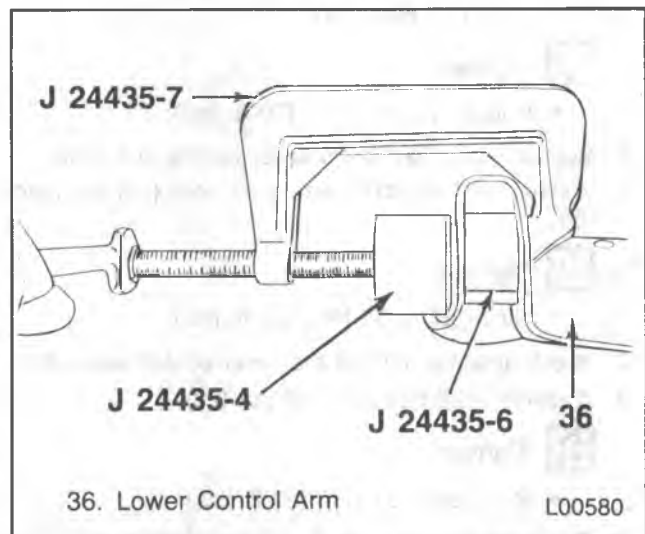

Figure 28 — Removing or Installing the Lower Control Arm Bushings (R10/1500, G10/1500 and G20/2500 Models)
3. Shock absorber (20) from the lower control arm (28).
4. Nuts (38), washers (39 and 41), clamp (42) and bolts (43).
5. Stabilizer bar (59) from the lower control arm (28).
6. Loosen the pivot shaft end nuts (24); do not remove.
7. Nuts (49), washers (48) and U-bolts (44).
- SLOWLY lower the floor jack until all compression is released from the spring (32).
10. Bushings (46) and the pivot shaft (50) from the lower control arm (36).
- Use J 24435-2, J 24435-3, J 24435-6 and J 24435-7 (figure 28).
- The pivot shaft (50) will slide out of the lower control arm after one bushing is removed.
- Leave the pivot shaft (50) inside the lower control arm (36) to remove the remaining bushing.
1. New bushings (46) and the pivot shaft (50).
- Use J 24435-4, J 24435-6 and J 24435-7 (figure 28).
2. Pivot shaft nuts (24) and washers (25).
3. Rear bushing (46).
- Press the front end of the pivot shaft (50) to remove the rear bushing.
4. Front bushing (46).
- Tighten J 24435-7 to remove the bushing (figure 28).
1. New bushing (46) using J 24435-6, J 24435-4 and J 24435-7 (figure 28).
2. Pivot shaft (50) into installed bushing.
3. Remaining bushing (46) into the lower control arm.